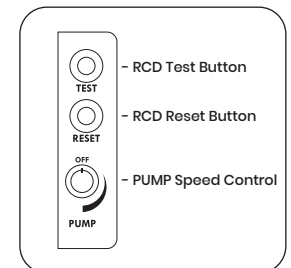

Fig. 11
3. Activate the pump using the pump speed control located at the heater side, the blue **PUMP** indicator will light up (**Fig. 11**).
RCD Test and Reset Buttons (Fig. 11)